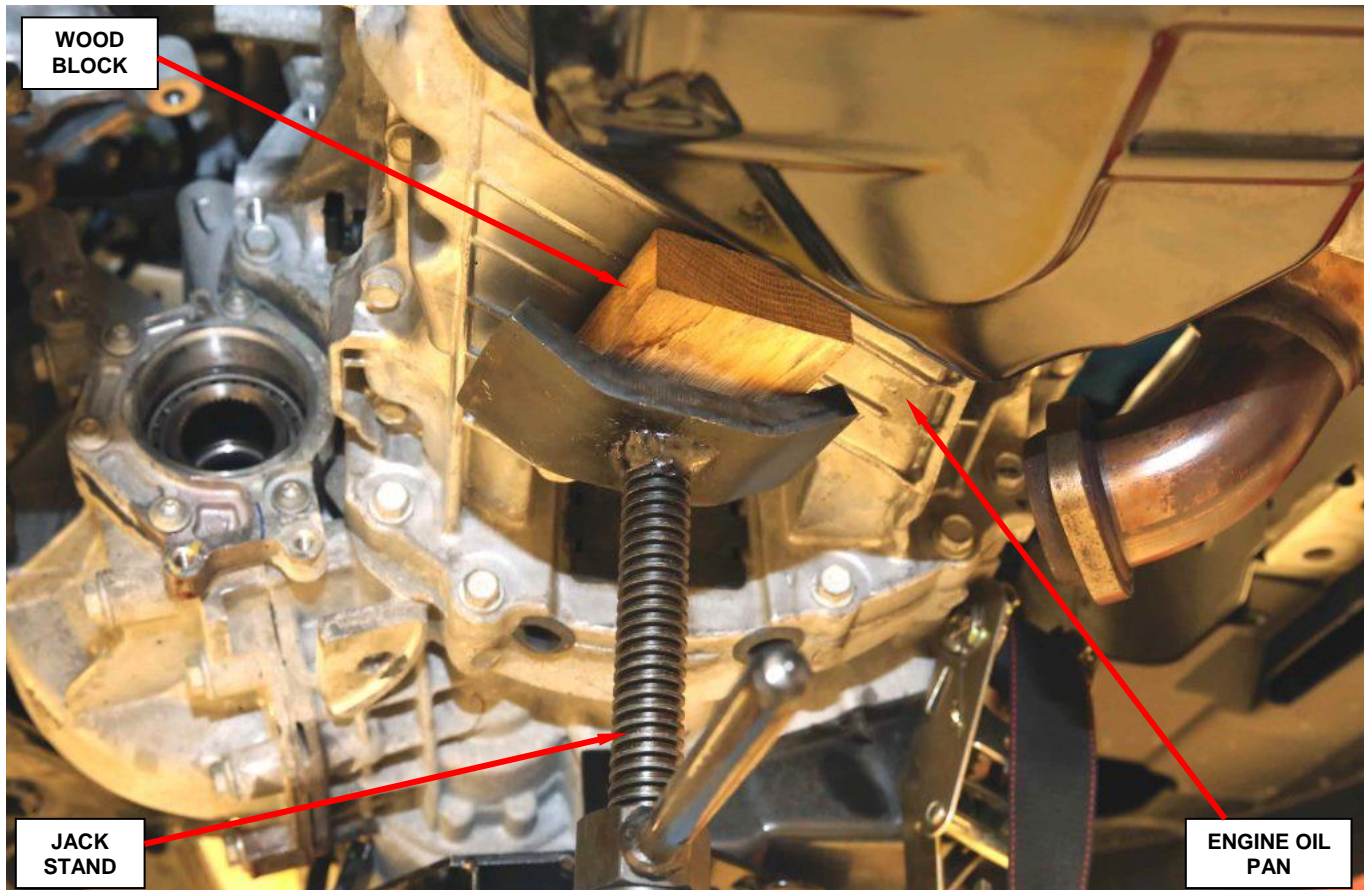

Figure 17 – Support Engine
29. Remove and save the torque converter access panel (Figure 17).
32. Support the engine with a small jack stand (Figure 17).
37. Remove and save the lower bellhousing bolts (Figure 17).